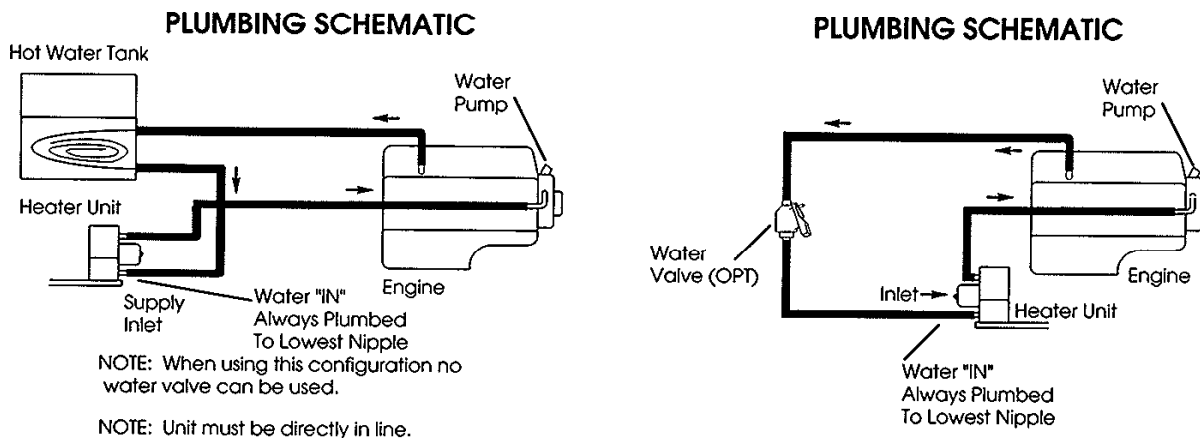

Figure 2
6. If the boat is equipped with an engine heated hot water tank, it is possible to add the Red Dot heater in series with this unit. The diagram below shows various installations: (See Figure 2.)